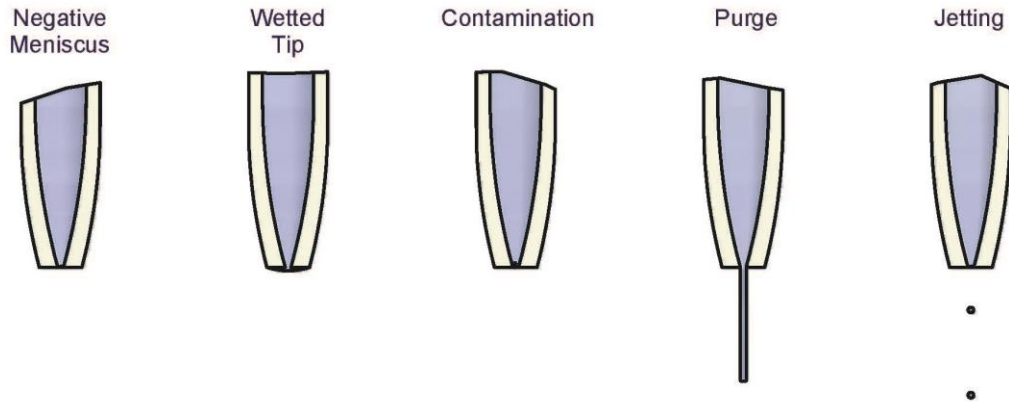

Figure 5 Examples of meniscus position at the orifice of a dispensing device
The Backpressure Regulator controls the balance of positive and negative pressure supplied to the reservoir when the Pressure Mode Selector is set to "Control". This balance allows fine control of the meniscus during dispensing as shown in **Figure 5**. Turning the knob clockwise increases positive pressure and decreases negative pressure, while turning the knob counterclockwise increases negative pressure and decreases positive pressure.
- **Controlling backpressure while dispensing:** Switch the Pressure Mode Selector from "Positive" to "Control" to transfer control to the Backpressure Regulator for fine pressure adjustment. Adjust the Backpressure Regulator until the fluid meniscus is flush with the device orifice. Often a lint free swab is useful in cleaning the front face of the orifice in order to verify the pressure level. **Figure 5** shows possible meniscus positions at the orifice.